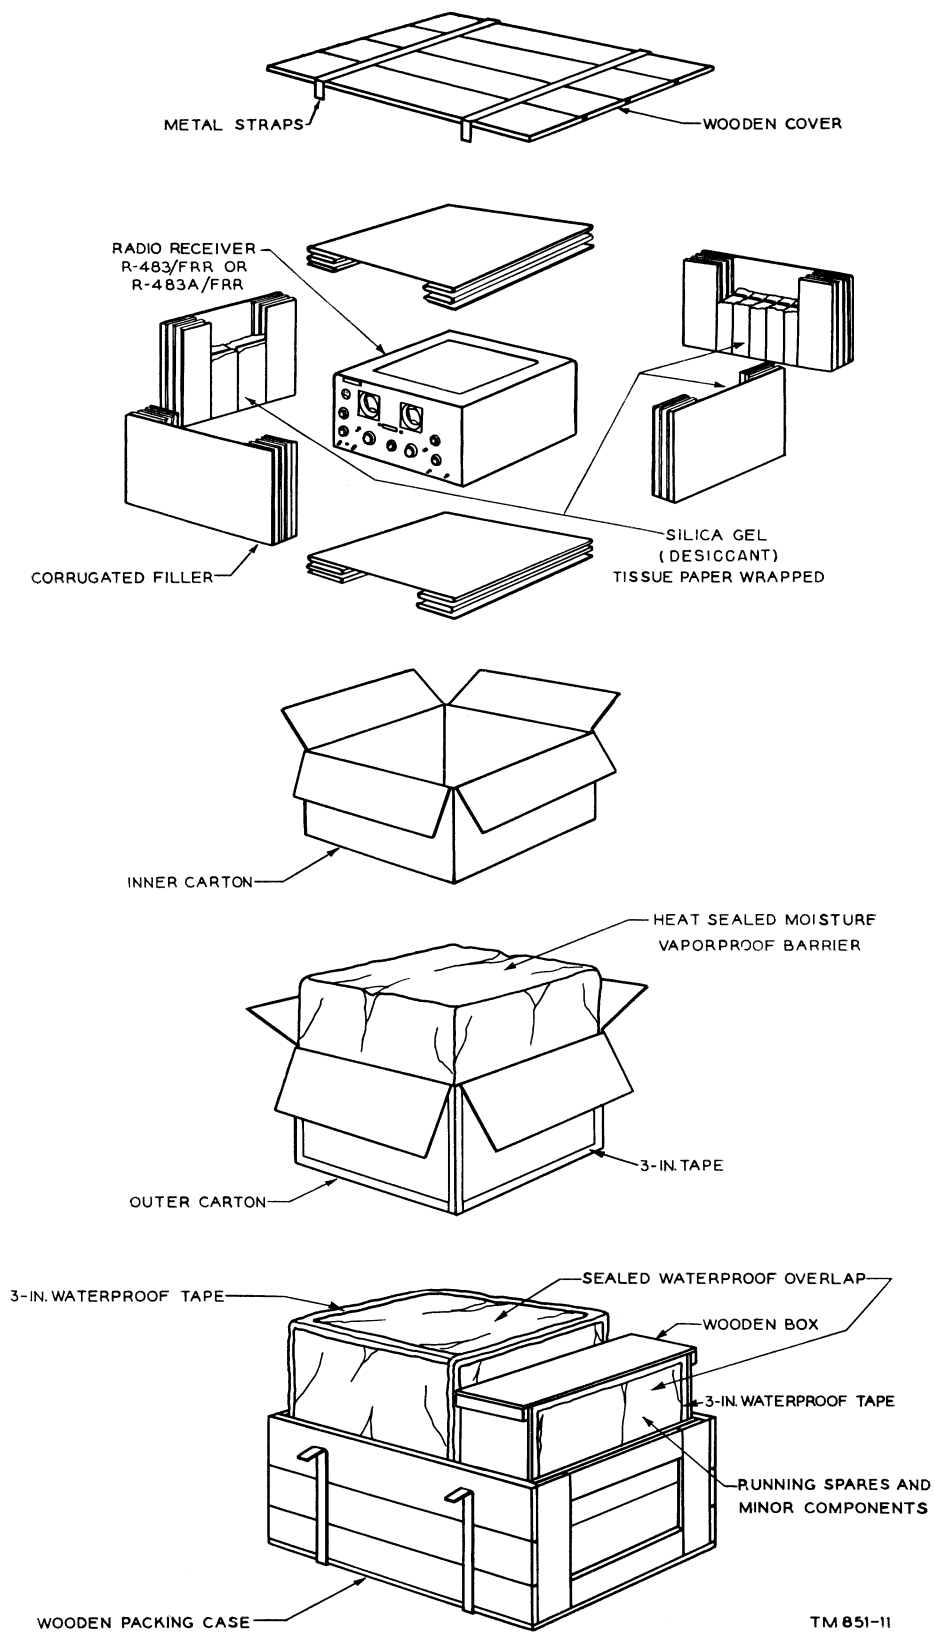

Figure 12. Packing and packaging Radio Set SCR-244-D and running spares.
b. Step-by-Step Instructions for Uncrating and Unpacking Export Shipments (fig. 12).
- (1) Place the packing case near the operating position.
- (2) Cut and fold back the metal straps.
- (3) Remove the nails with a nailpuller to remove the top of the packing case.
- (4) Remove excelsior, if any, from around the cartoned receiver, the cartoned operating components, and the running spares.
- (5) Remove the cartoned receiver and the wooden box containing the cartoned running spares and accessories.
- (6) Remove waterproof tape from the waterproof overwrap around the cartoned receiver, and then remove the paper.
- (7) Open the carton and remove the inner carton containing the receiver.
- (8) Remove the heat-sealed, moisture-vapor-proof bag from around the inner carton.
- (9) Open the inner carton and remove the silica gel desiccant (nine bags, each individually wrapped in tissue paper).
- (10) Remove the wooden frame from the inner carton (used with rack-mounting models); also remove the corrugated interiors comprising two side pieces, one front (if any), one back, and one top.